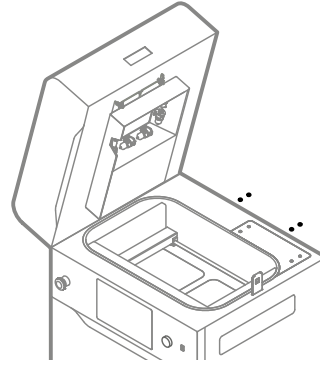

Fig. 12.76 Tighten back four screws of the access panel.
15. Using a 2 mm allen key, tighten back the four screws securing the access panel on the top of the printer (fig. 12.76).